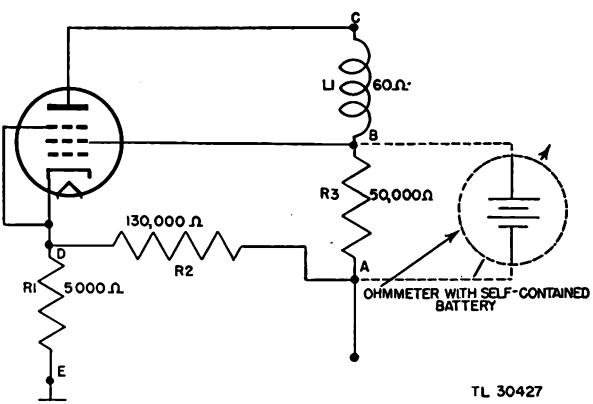

Figure 58. Resistance measurements functional schematic.
## (4) PRACTICAL EXAMPLES OF SERIES CIRCUITS. Figure 58 shows the use of resistances in an amplifier stage. A, B, C, D, and E are used as reference points.
IN FIGURE 58